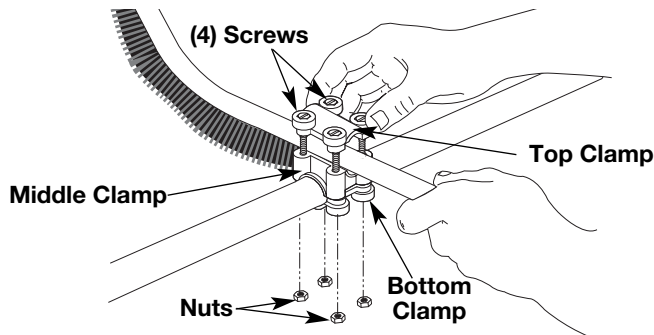

Fig. 1
1. Place the handlebar between the top and middle clamp pieces (Fig. 1).